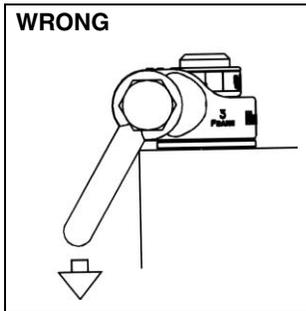
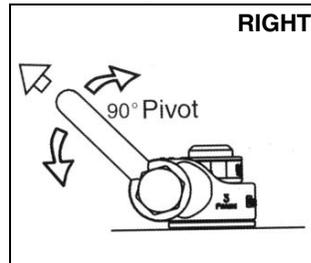

Figure 1
Figure 3
- Attach lifting device ensuring free fit to hoist shackle (See Figure 3).
- Apply partial load and check proper rotation and alignment of shackle. There should be no interference between load (work piece) and hoist shackle (See Figure 1 and Figure 3).
- The Hoist ring should rotate into normal operating position, with shackle aligned with load as shown in Figure 3. If shackle is oriented as shown in Figure 4, **DO NOT LIFT.**
- ASTM A-563 (A) Grade D Hex Thick (B) Grade DH Standard Hex
- Always ensure free movement of shackle. The shackle should pivot 90° and the hoist ring should swivel 360° (See Figure 3).